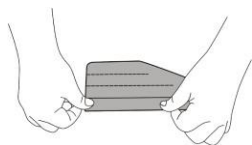

Figure 2a
2. Fold the Lung-Bag portion of the Face-Shield/Lung-Bag (Figures 2a-2d):